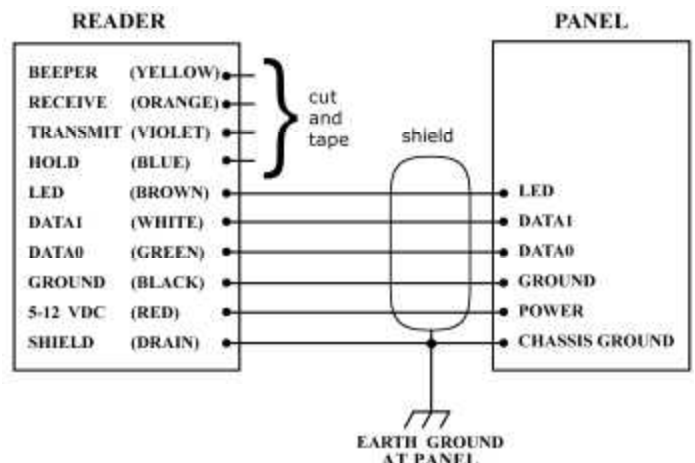

FIGURE 2: WIRING DIAGRAM (WIEGAND)
4. Connect the reader's cable to the access control panel as shown in Figure 2. Connect the **yellow** wire only if used for Beeper control by the panel. In steps 9 and 10, let the yellow wire **float**. Connect the **blue** wire only if used for Hold control by the panel. **Do not connect** the **orange** and **violet** wires to anything. **Tape or cap all unused wires singly.**
- 5, 6 or 7 conductors (not twisted pairs), stranded, 22 AWG, color-coded insulation, overall 100% shielded (Fig. 2)